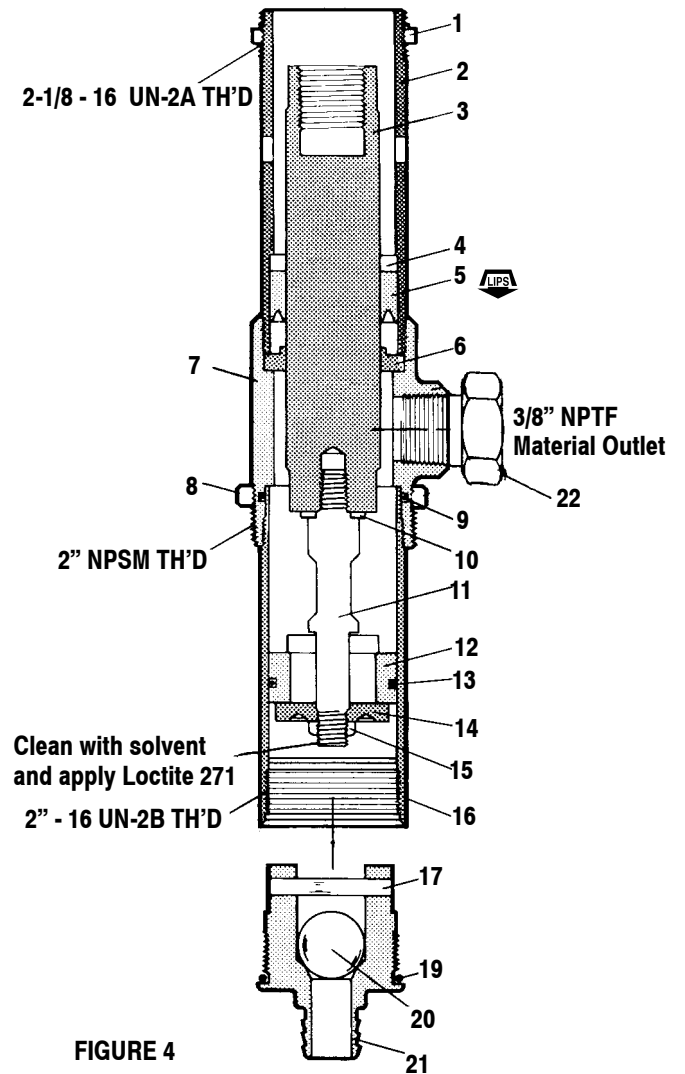

FIGURE 4
3. Place the (H) suction tube assembly and the lower pump assembly through the 2" NPT bung in the pump mounting bracket. Thread the lower pump assembly into the pump mounting bracket, align the material outlet in the direction the (F) material hose should go, and tighten the (8) lower lock nut. (See Figure 4). Loosen (1) upper lock nut,
(Figure 4), and turn the air inlet of the 65444-B air motor in the direction desired and retighten the (1) upper lock nut.
4. Attach the (A) nipple and (B) airline lubricator.
5. Attach the (F) hose assembly to the 3/8 NPT thread in the material outlet of the pump.
6. Attach the (F) hose assembly to the 3/8 NPT thread in the (G) control handle assembly.
7. Attach the 1/4 NPT thread of the (N) bent pipe assembly to the outlet of the (G) control handle assembly.
- Empty material supply. Disconnect the air. Replenish material supply. Connect the air. Open (G) control handle assembly until pump is primed.
- 90609 Retaining screw (See Figure 3) disassembled from (3) plunger. (Figure 4). Connect the retaining screw to the plunger. (Follow instructions for assembly of air motor to lower pump end).
- Damaged (H) lower suction tube. Replace suction tube.
- Loose (J) hose clamp assembly on (K) tube. Tighten clamp.